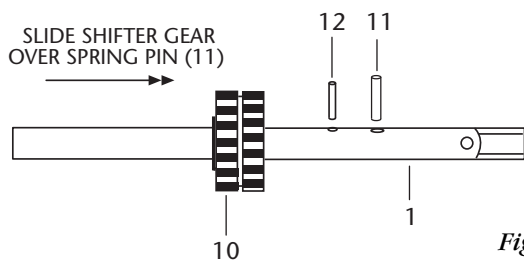

Figure 12
- Install pin (*Item 11*) through crankshaft (*Item 1*) and slide the shifter gear (*Item 10*) in place with the recess in the shifter gear over the pin. Now, secure the gear in place using the retaining pin (*Item 12*). See *Figure 12*.